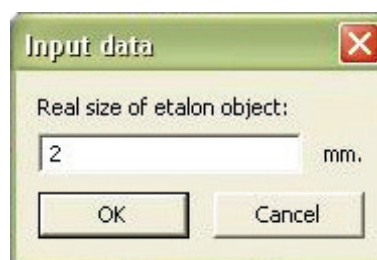

Fig.10c. Calibration.
- o Type the size of the etalon (fig.10c).